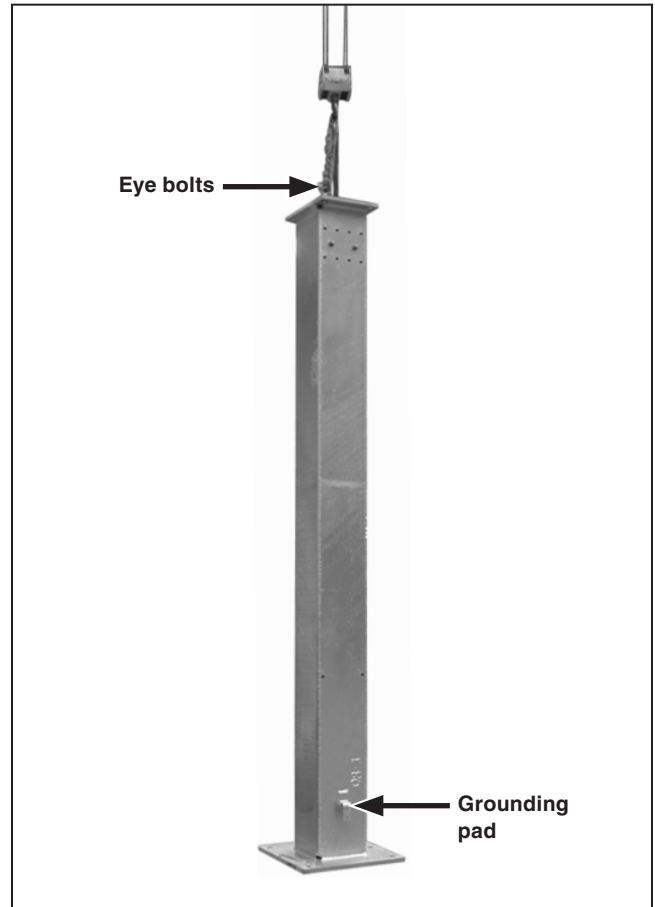

Figure 4. Lifting the pedestal into position.
- (b) Install the temporary eyebolts into the holes provided at the top of the mounting pedestal. Attach lifting slings to the eyebolts. See Figure 4.
- (c) Lift the pedestal over the anchor bolts. Before lowering, make sure the grounding pad is positioned properly for the installation. See Figure 4. Refer to the accompanying catalog drawing for details.